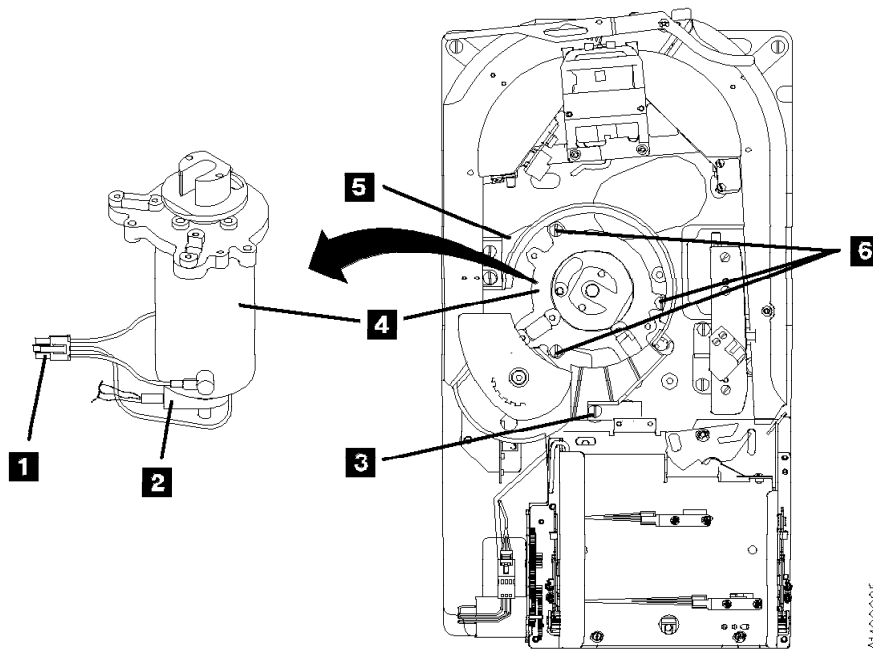

Figure 335. Machine Reel Motor
5. See Figure 335. Remove the center-tape-guide mounting screw **3** and remove the guide.